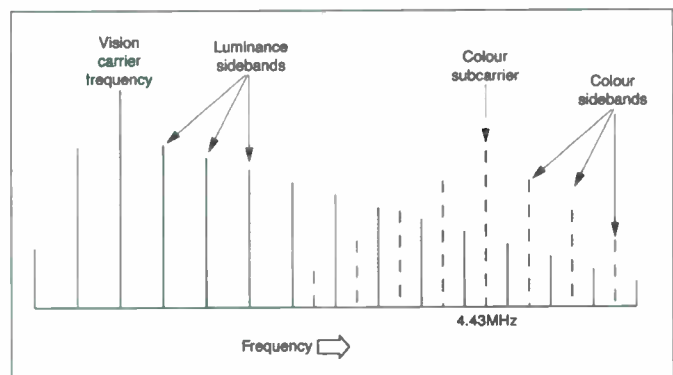

Fig. 2: Interleaved luminance and chrominance sidebands with a PAL colour transmission. The side frequencies cluster around multiples of the line frequency.
For analogue TV transmission the picture's colour content (the chrominance signal, C) modulates a 4.43MHz subcarrier whose sidebands fit neatly within those of the basic luminance signal (Y). See Fig. 2. Separation of the Y and C components of the demodulated video signal must be as clean as possible to avoid high-frequency luminance information being contaminated by